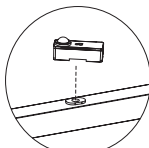

Fig. 2
2. Plug sensor to the receptacle. (Fig. 2)